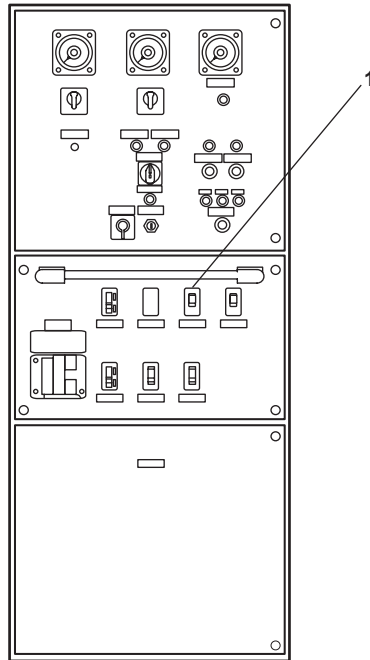

Figure 2. Emergency Switchboard
2. At the emergency switchboard, in the emergency diesel generator room, set the FIRE PUMP NO. 1 circuit breaker (figure 2, item 1) to OFF.